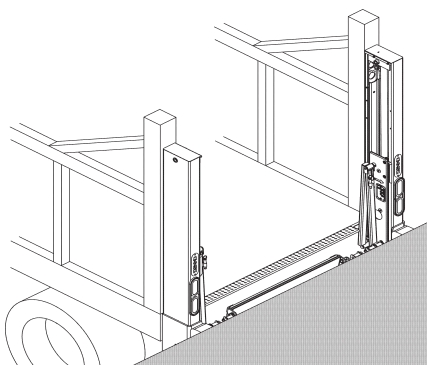

FIG. 27-2
3. Back up vehicle to dock (**FIG. 27-2**). Now loads can be moved between dock and vehicle.